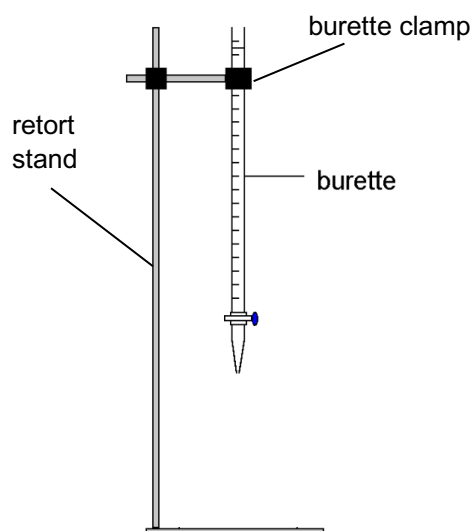

Figure 2.5: Burette set-up
- The burette is set up on a retort stand (see Figure 2.5). Rinse the burette with 2 x 5 mL water, then 1 x 3 mL stock solution.
2.3 Copper(II) oxide to copper(II) sulfate
After 5 minutes, carefully remove the beaker from the hotplate using a wooden peg and let it cool down to room temperature in the fumehood. Filter the copper(II) oxide precipitate through a fluted filter paper (see Exercise 2, Figure 2.5) into a 100 mL conical flask using a glass funnel. Transfer all of the solid to the filter paper; rinse the beaker with deionised water into the filter paper/funnel. Discard the filtrate.